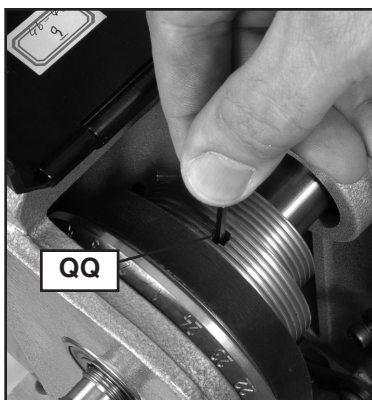

Fig. 33
7. Loosen spindle pulley set screw (QQ) Fig. 33 with included hex wrench.